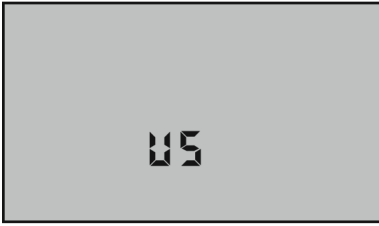

Figure 13
3. Press  $\frac{CAL}{MCLR}$  to change. Display will now indicate other format (see Figures 13 & 14, pg.41).